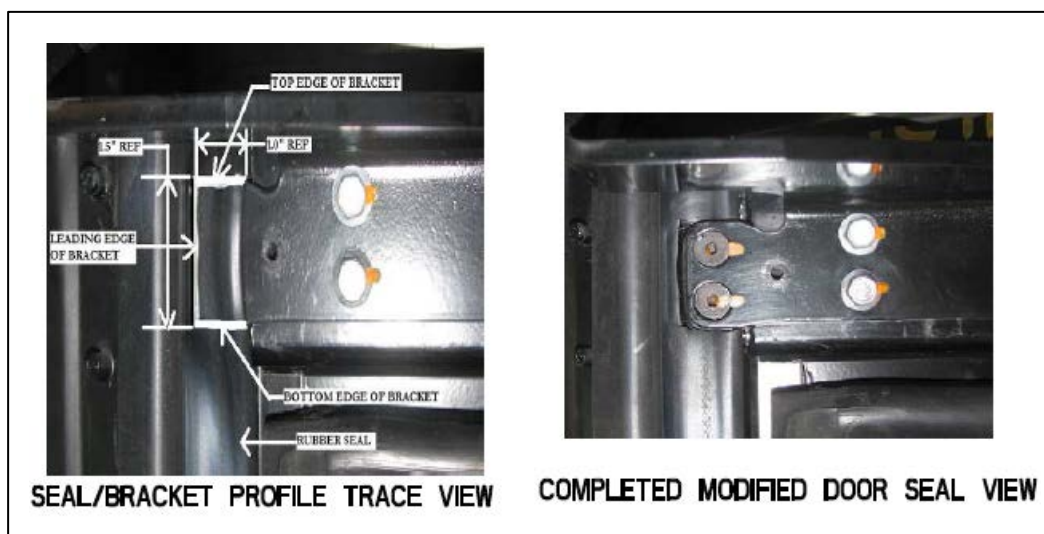

Figure 4: Trace and cut views of the door seal
- 16) With the door as near as possible to the closed position, using the field replacement bracket outer profile as a guide, cut the existing lip of the door seal just installed as close as possible. See **Figure 4**.
- 19) With the door as near as possible to the closed position, using the field replacement bracket outer profile as a guide, cut the existing lip of the door seal just installed as close as possible. See **Figure 4**.